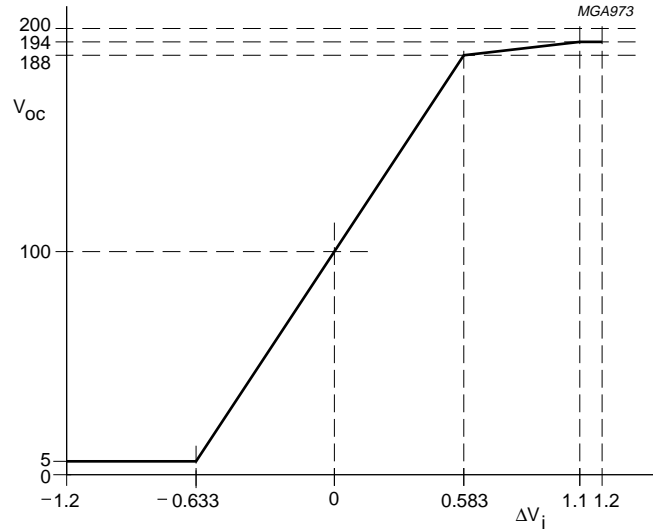

Fig.6 Typical low-frequency ($f < 1$ MHz) response of $\Delta V_{i1, 2,3}$ to $V_{oc1, 2,3}$.
- See also Fig.6 for the typical low-frequency response of V_i to V_{oc} .